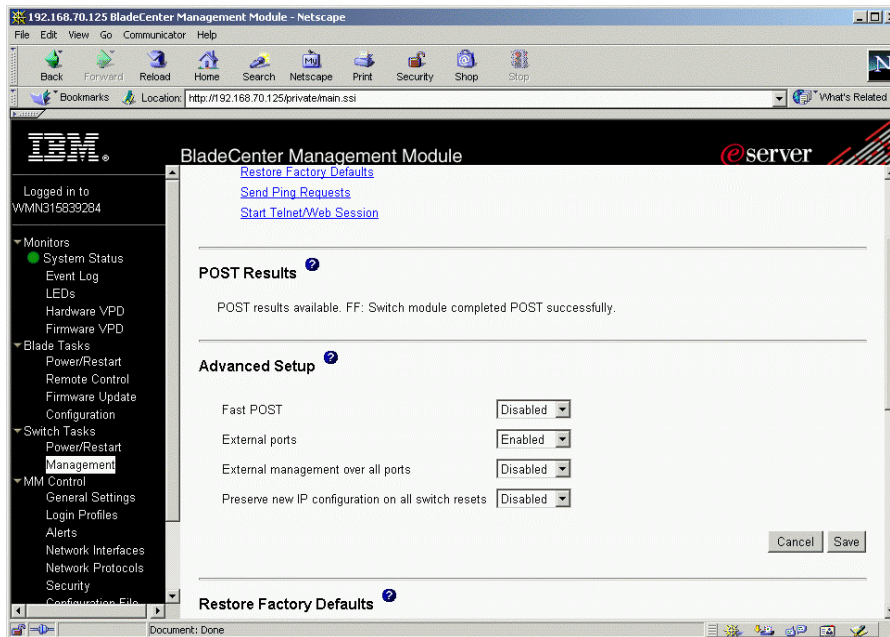
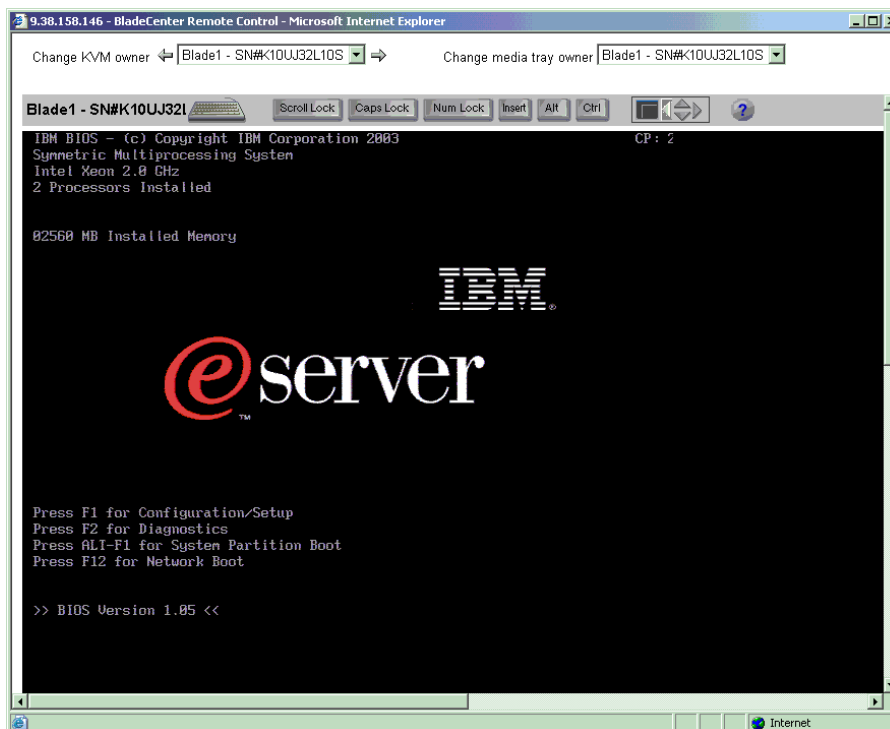

Figure 8. Advanced Setup
Figure 17. Remote console
- On the Advanced Setup section (Figure 8), click the pull-down list for External ports and select **Enabled**, as shown. Click **Save** to activate the change.
4. This can also be done using the BladeCenter Management Module. Do this on the original browser window showing the BladeCenter Management Module screen (e.g. Figure 8).
- b. On the field labeled **Change KVM owner**, click the pull-down list and select the blade server you want to access. The local console screen will be displayed on your browser. To switch the CD-ROM and diskette drive, select the blade server in the field labeled **Change media tray owner**. Refer to the top of Figure 17.
- c. To power up the blade server, go to the original browser window showing the BladeCenter Management Module screen (e.g. Figure 8). On the left hand panel, under Blade Tasks, click **Power/Restart**. Bootup messages will be displayed on the remote console window (Figure 17).